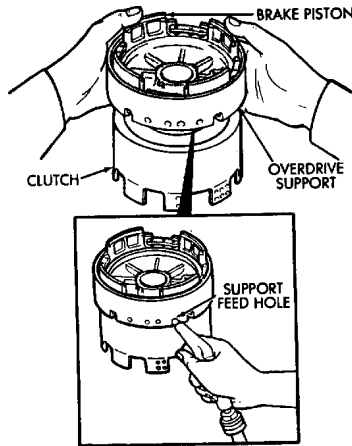

Fig. 2 Checking Brake Piston Movement
- (1) Check brake piston operation. Mount support on clutch (Fig. 2).
- (2) Apply compressed air through support feed hole and observe brake piston movement (Fig. 2). Piston should move smoothly and not bind or stick. If operation is incorrect, replace piston and support.